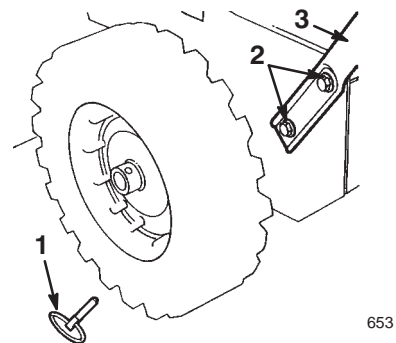

Figure 3
2. Remove the axle pins from both wheels (Fig. 3) and slide the wheels outward on the axle approximately one inch (2.5 centimeters).
4. Position the left side of the handle assembly against the left side of the snowthrower, align the handle mount holes with the holes in the side plate, and secure the left side of the handle assembly with 2 bolts and curved washers until they are finger tight (Fig. 3).